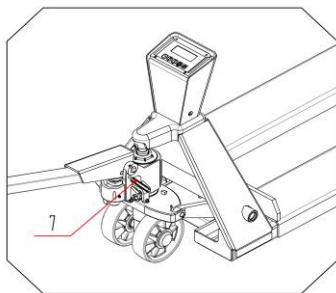

Fig. 3
- 2.1.6 As shown in Fig 3, pull the handle to the horizontal position, pull out the pin 7, and keep the pin 7 properly for use when replacing the handle next time.